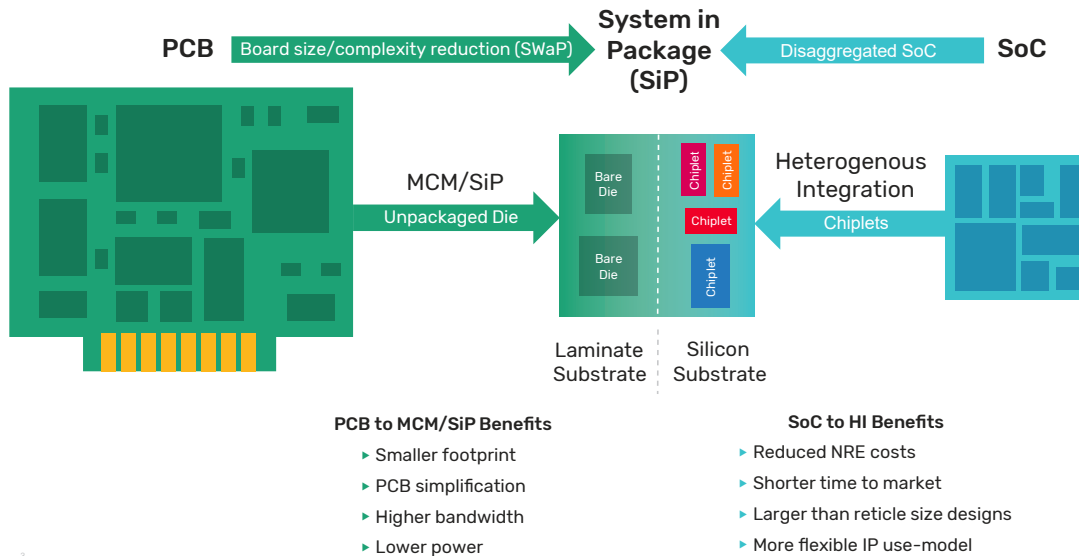

Figure 1: Heterogeneous integration
The semiconductor packaging industry is now poised to take on a larger, more significant role in electronic product design of the future. To meet the market demand for these heterogeneous, chiplet-based architectures (Figure 1), new system-level design methodologies are required, targeting system-level power, performance, and area (PPA). When designers transition from single monolithic devices to multi-chiplet architectures, the first challenge they face is how to plan, manage, and optimize their top-level design and connectivity. A novel system-level design management solution is now required. This platform must be capable of aggregating data from the integrated circuit (IC) designer, the package designer, and even the board designer, for the purposes of system-level optimization and providing the top-level netlist for signoff connectivity verification.